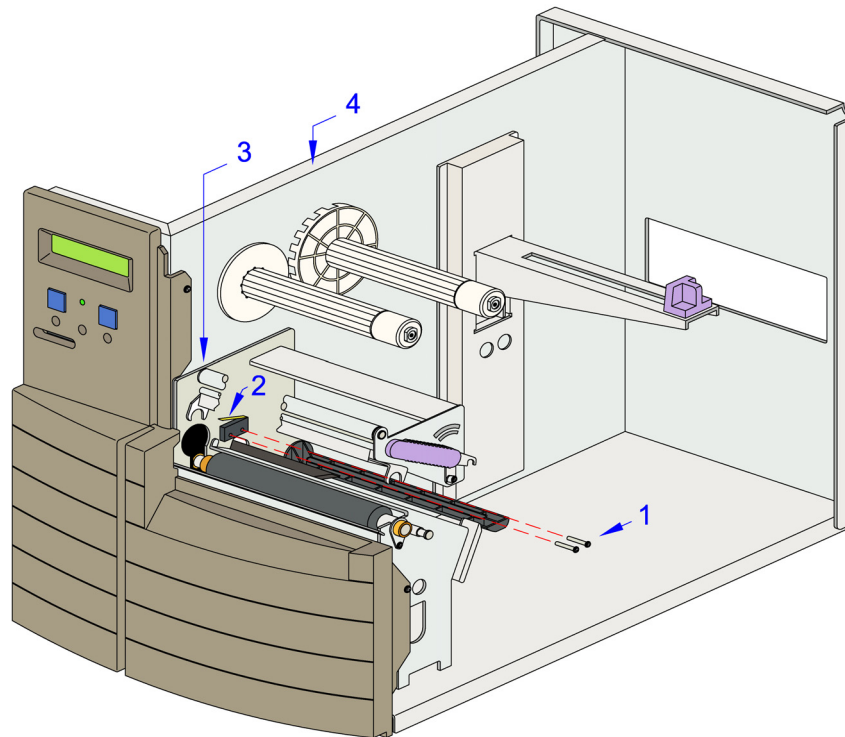

Figure 7-13, Head-Open Sensor Replacement
4. Unlatch the print head and remove two screws (1, Figure 7-13) securing defective head-open sensor (2) to print assembly (3).
5. Withdraw defective head-open sensor (2) from within print assembly (3).
6. Route the wiring harness of replacement head-open sensor (2) through the printer's center frame (4).
7. Secure replacement head-open sensor (2) to print assembly (3) using two screws (1).